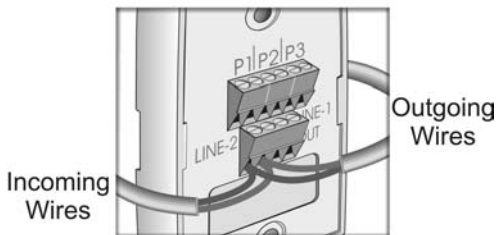

Figure 2.21: Terminal Block second line connector
- Step 4** Connecting a second phone line is done using the Line 2 connection. The second phone line incoming wires must be shorted to the outgoing wires using the same terminal block connections, as shown in Figure 2.21.